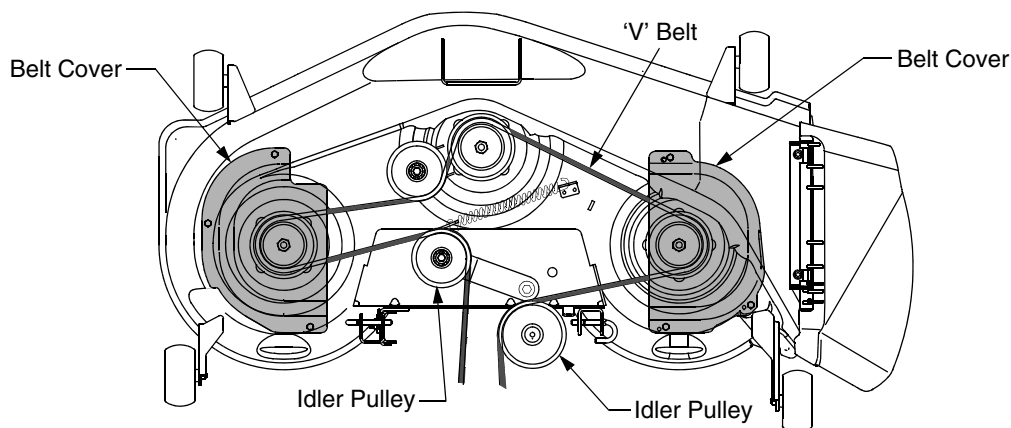

Figure 37
- Remove the hex tapping screws securing the belt covers to the deck and remove the belt from the spindle pulleys. Refer to Figure 37.
- Install the new belt around the spindle pulleys as shown in Figure 37 and reinstall the belt covers.